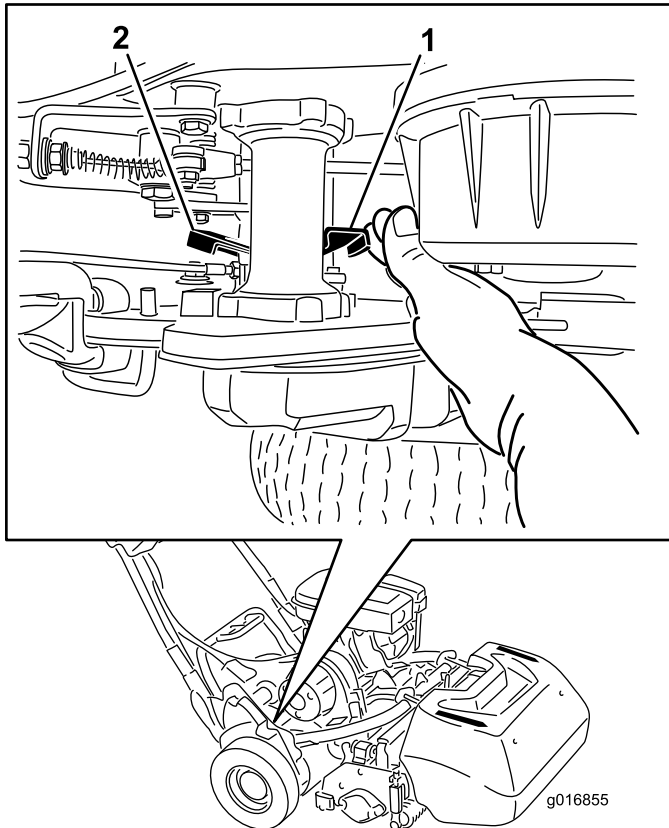

Figure 28
1. On the right rear corner of the machine, locate the traction engage/disengage lever next to the drive housing drum (Figure 28).